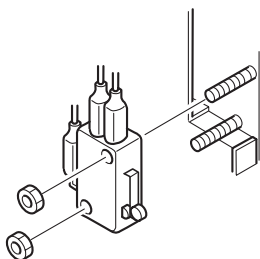

Figure 4-23 Removing the Security Cage Door Switch
4. Remove the key plate and nuts and remove the security cage from the cabinet (see *Figure 4-23 Removing the Security Cage Door Switch*).